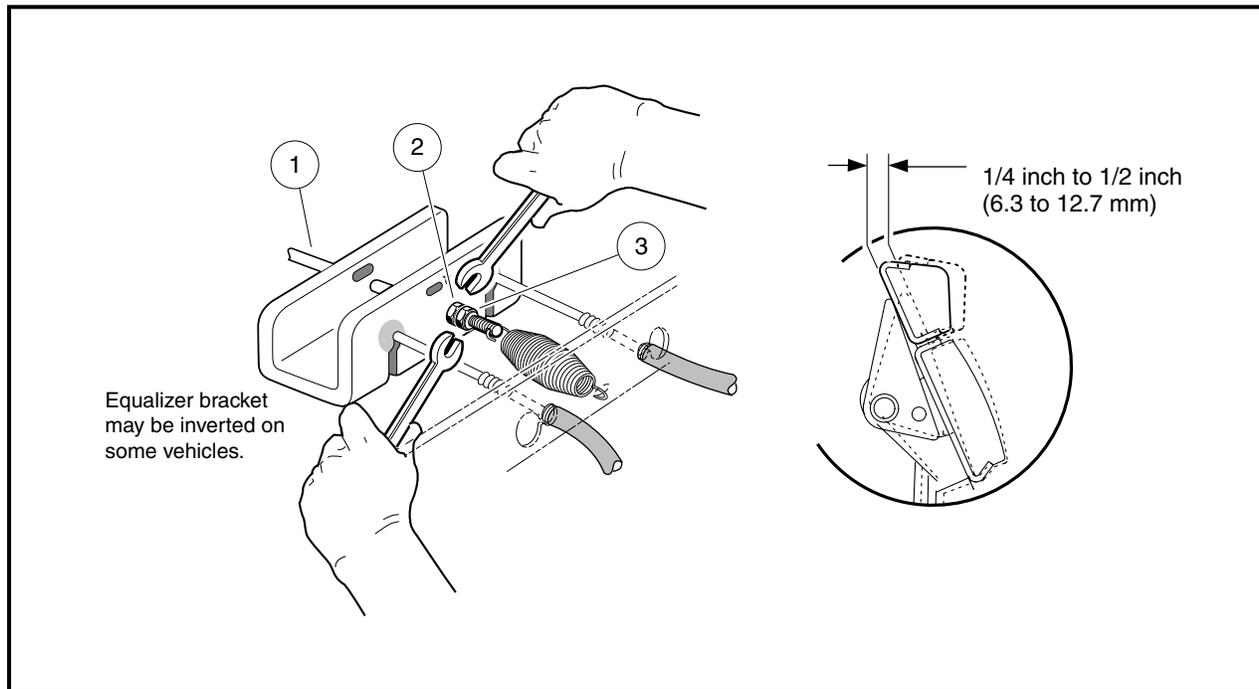

Figure 5-5 Brake Pedal Free-Play Adjustment
4. Tighten the nut (2) on the equalizer rod (1) so that brake pedal free-play is 1/4 inch to 1/2 inch (6 mm to 13 mm) (**Figure 5-5, Page 5-4**). See following NOTE.
5. Tighten the jam nut (3) while holding the adjustment nut (2) in the correct position (**Figure 5-5, Page 5-4**).